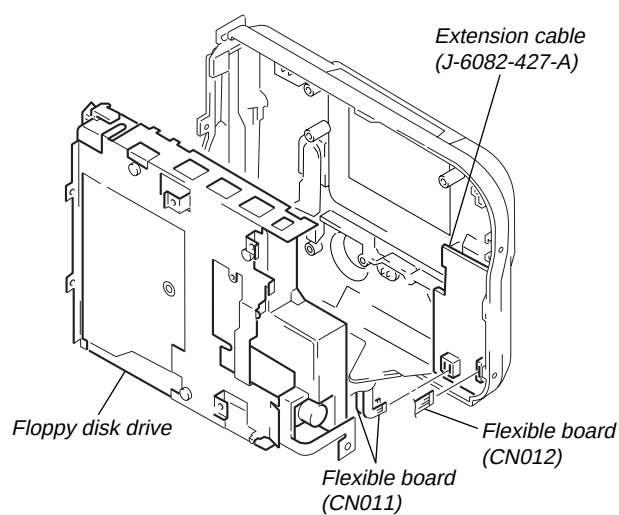

Fig. 2
- 3) Install the floppy disk drive. (See Fig. 2.)